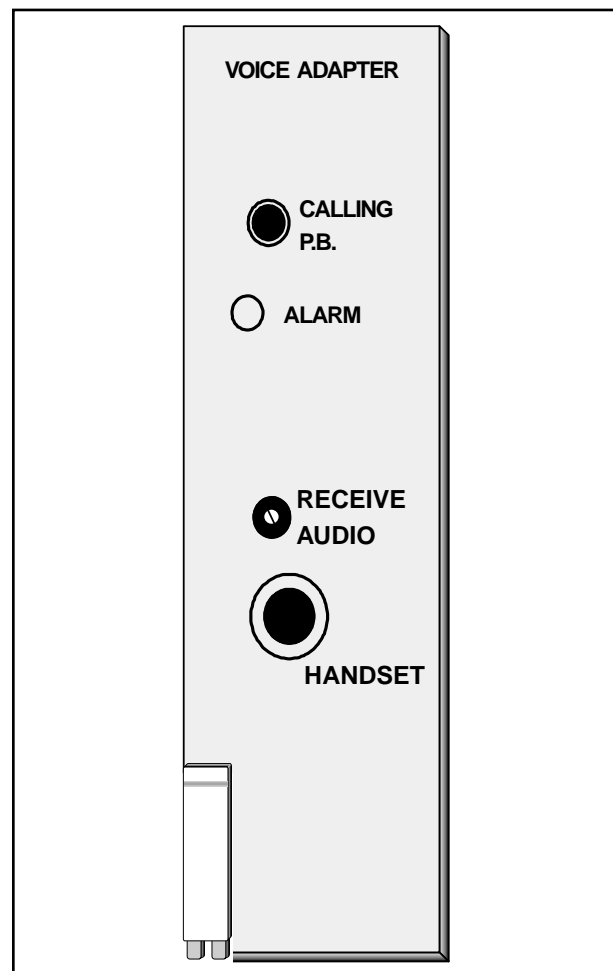

Figure 17-2. Voice Adapter Module – Front Panel.
2. Press the calling push-button, labeled "CALLING P.B.", on the Voice Adapter Module's front panel (see Figure 17-2).
The Voice Adapter Module's front panel is shown in Figure 17-2. It provides the following operator controls: